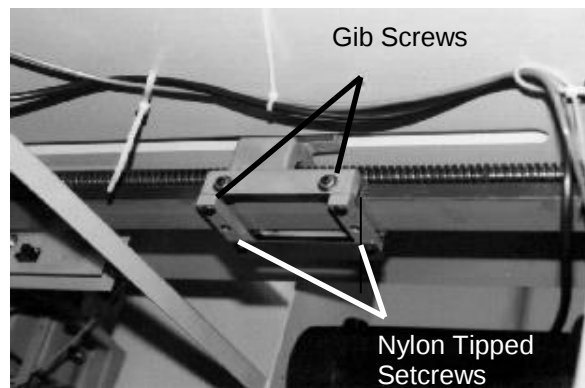

Figure 11
4. Loosen the two side gib screws and the bottom nylon guide screws (Figure 11).